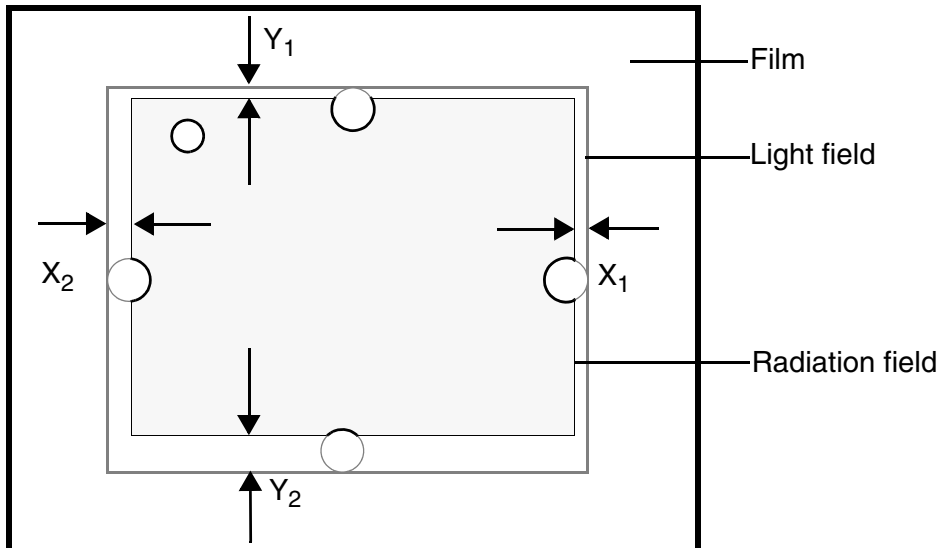

Fig. 17
- Measure the deviations (X_1 , X_2 , Y_1 , Y_2) between the edges of the light field and the radiation field on all four sides, corresponding to Fig. 17.